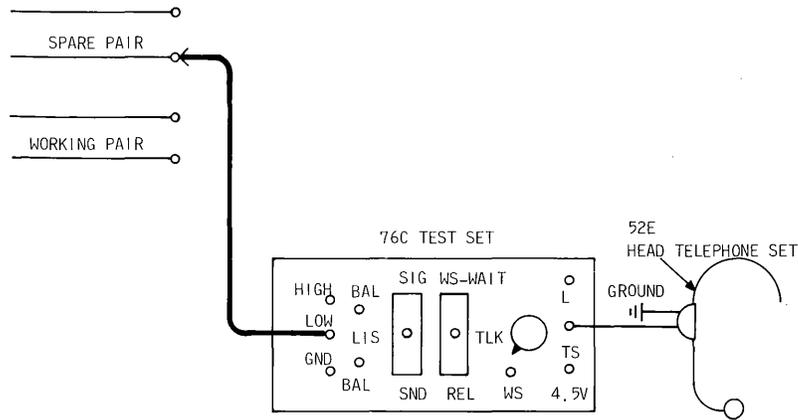

Fig. 18—Test Connections at Sending End
- At the sending end (A) connect the set as illustrated in Fig. 18 and with the keys in the LIS and TLK positions, select a pair.